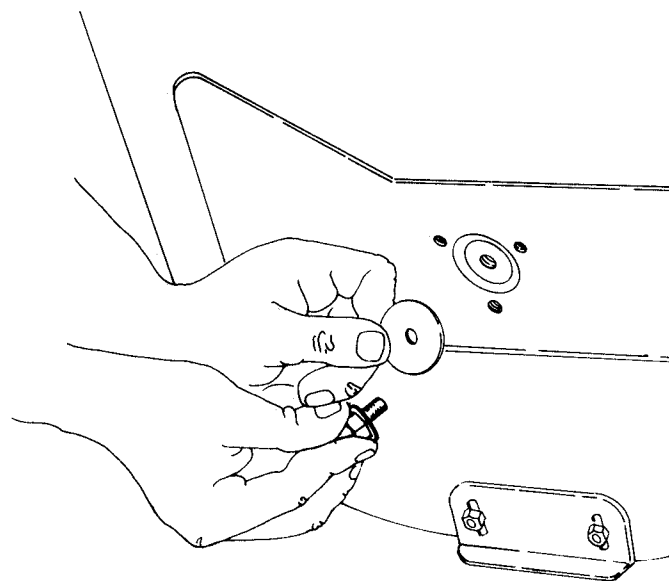

FIGURE 3.12 — AUGER SHAFT FLAT WASHERS
**STEP 2.** Remove the capscrews and flat washers from both ends of the auger shafts. Don't forget these flat washers during re-assembly. (Figure 3.12).
**STEP 4:** Secure both ends of the auger shaft with a flat washer and 1/2" long capscrew as shown in figure 3.12